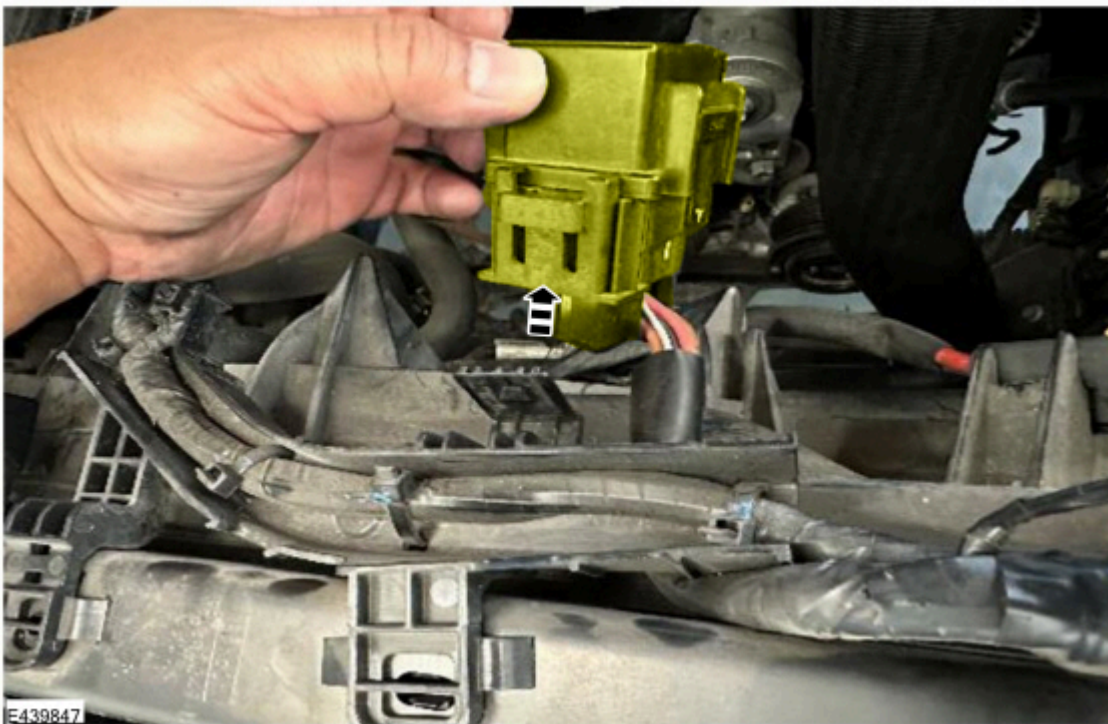

Figure 12
4. Remove the cooling fan relay. (Figure 12)